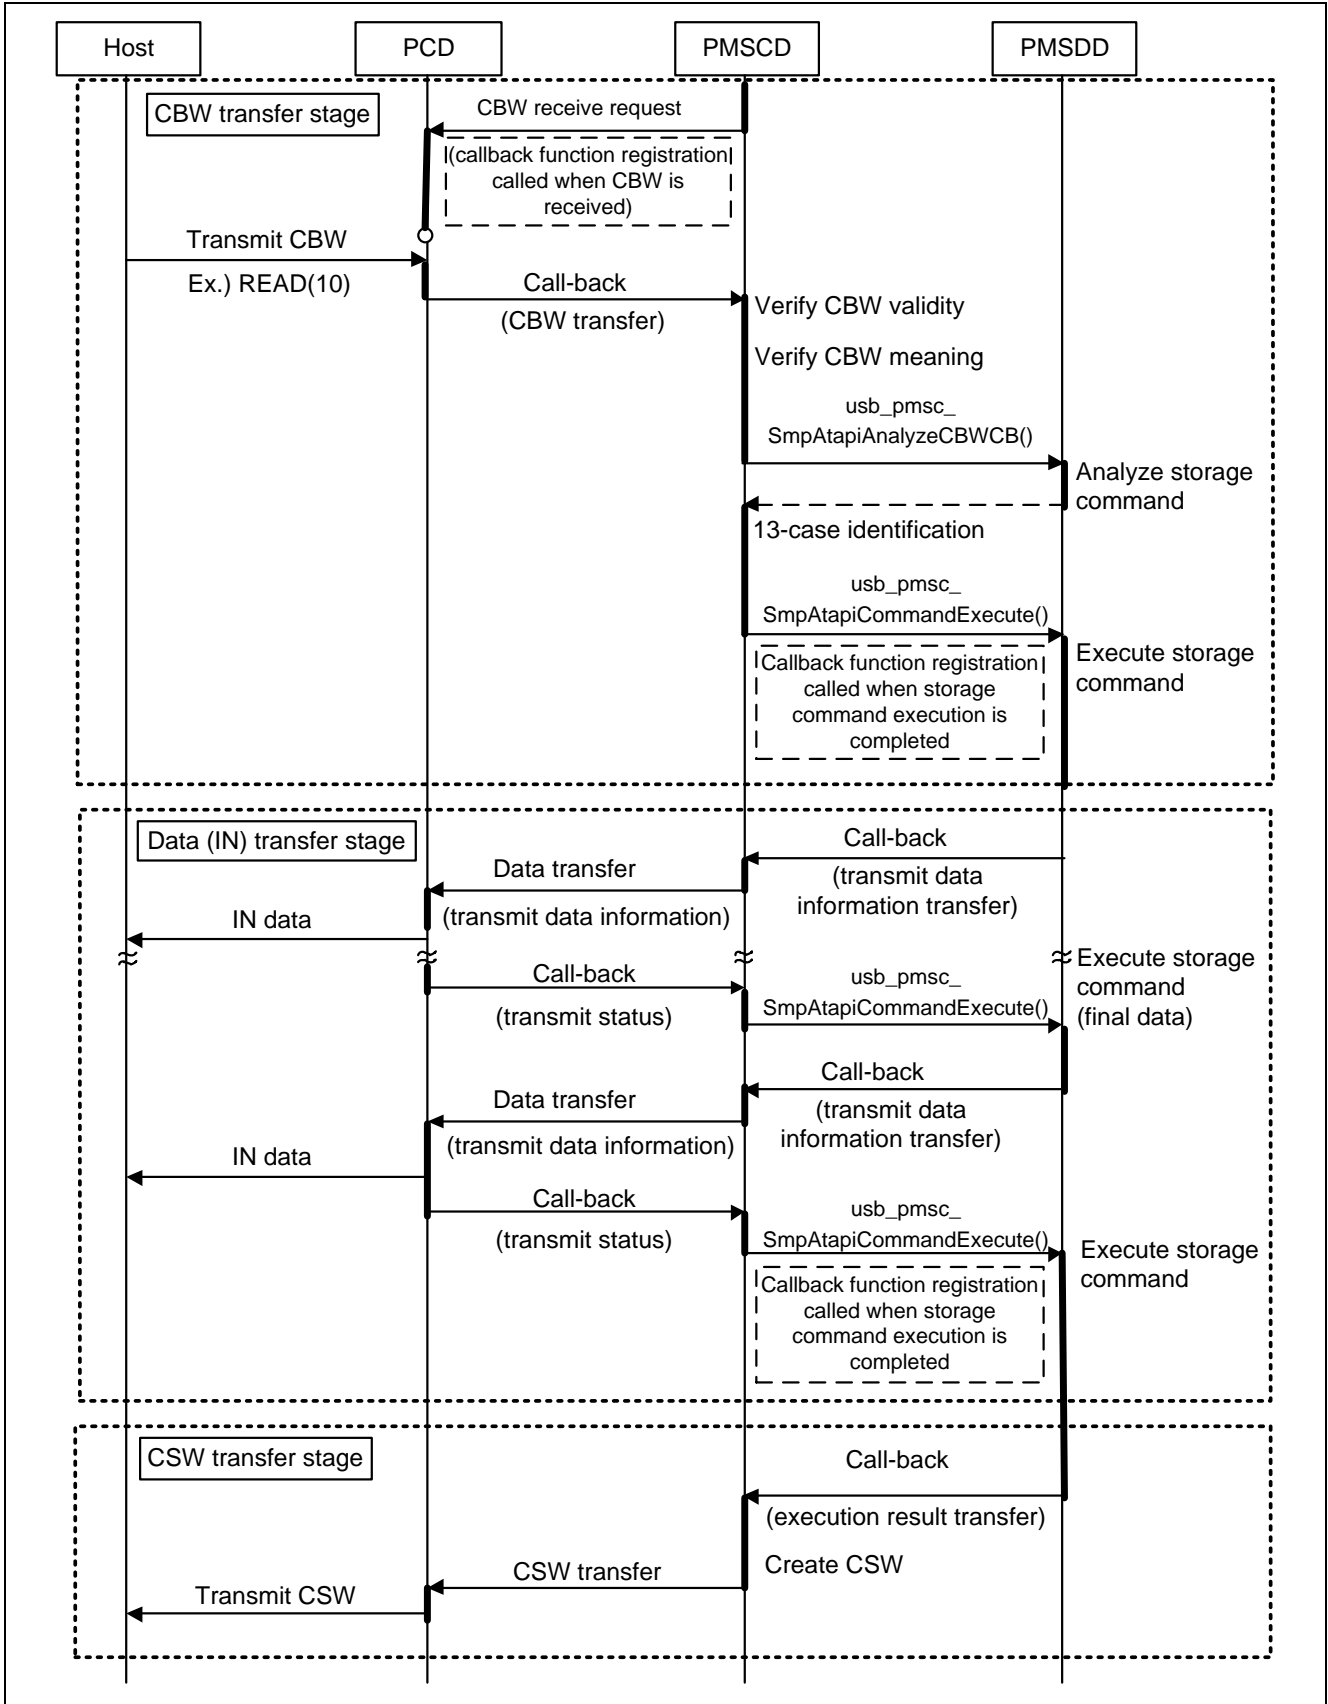

Figure 6-3 Sequence of Storage Command for Transmit (IN) Data
6.2.3 Sequence with storage command for transmit (IN) data
Figure 6-3 shows the sequence of storage command when there is transmit (IN) data from the peripheral side.